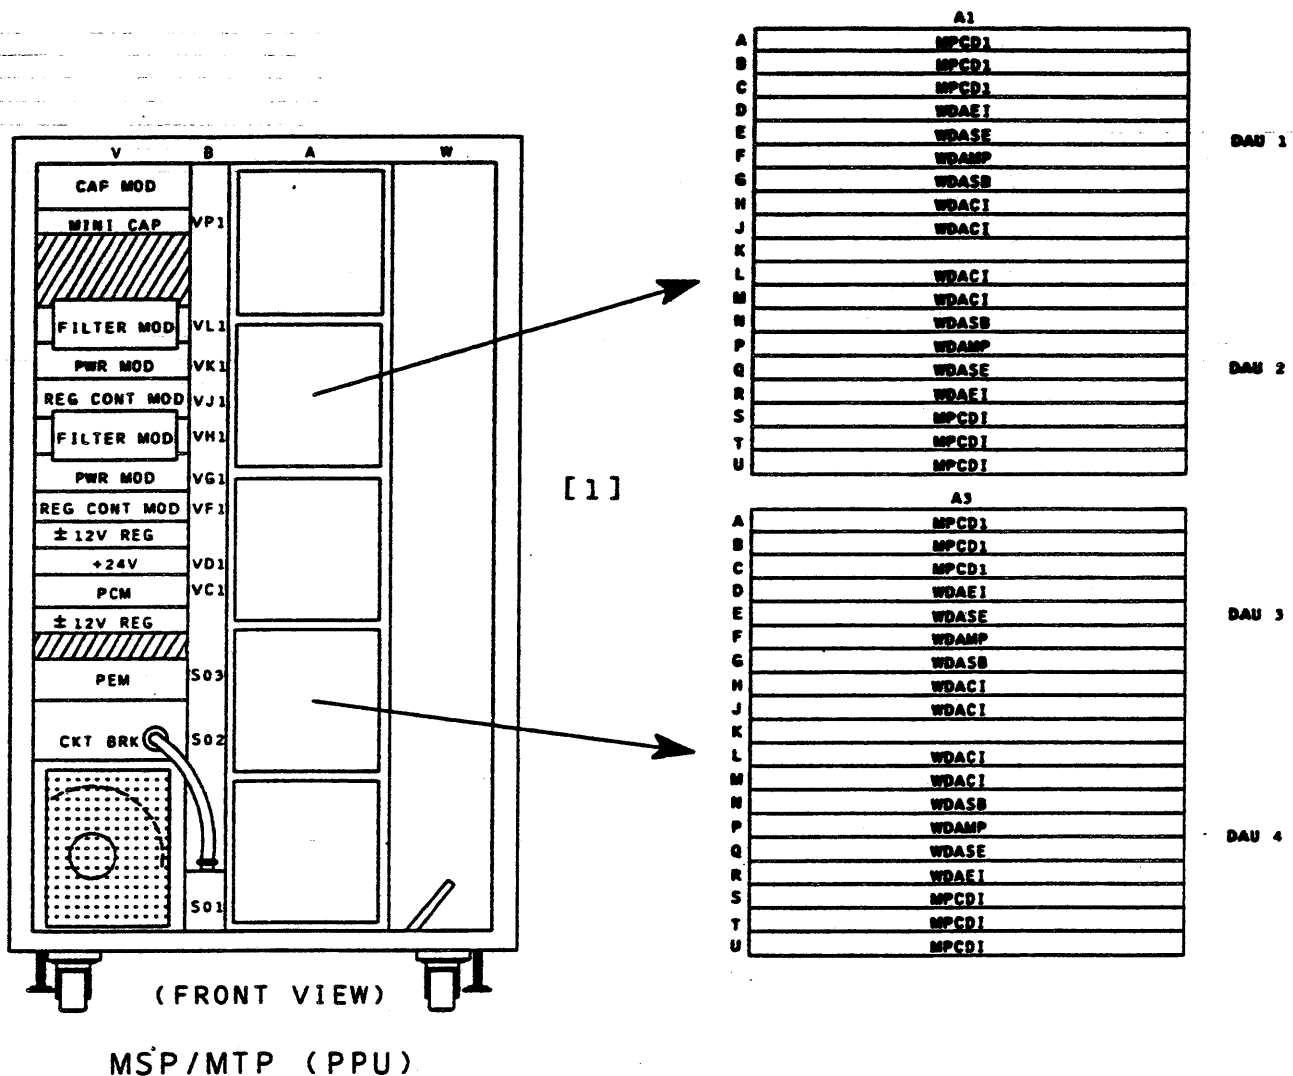

FIGURE 2.29-1. DAU LOGIC BOARD REMOVAL/INSTALLATION
4. Using logic board location diagram, identify position of faulty ORU (Figure 2.29-1, [1]).